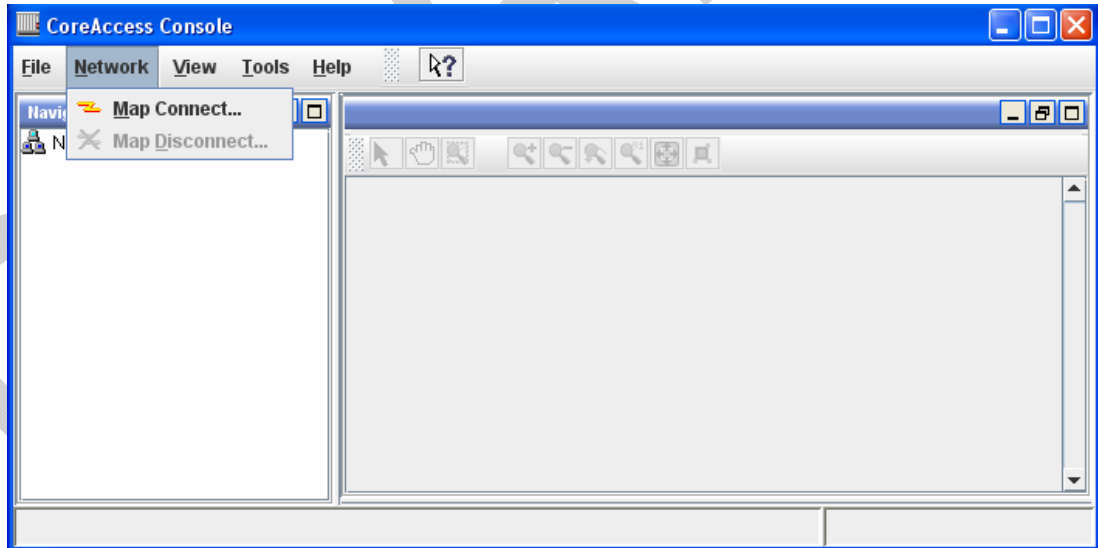

Figure 10 – CoreAccess Console Main Screen
- From the menu bar on the main CoreAccess Console screen as shown in Figure 10 below, select Network>Map Connect.